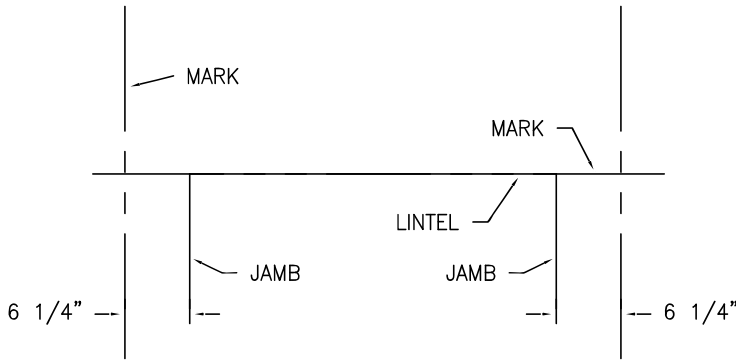

FIG. 1
- Using a level, make a vertical line parallel to doorjamb at a distance of 6 1/4" out from jamb. Line should extend approx. 9" above lintel, and approx. 13" below lintel line. Repeat for other side (Fig. 1).
- Using a level, make a horizontal line out from lintel height across vertical lines. Repeat for other side (Fig. 1).